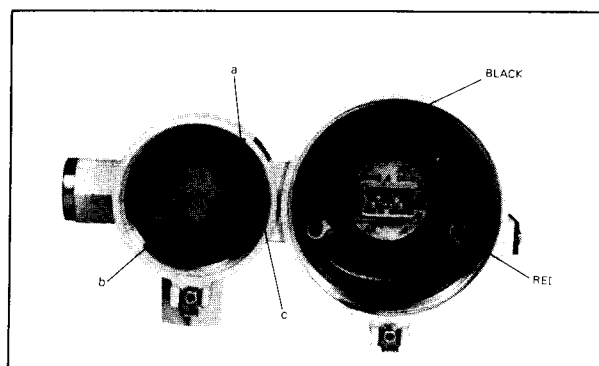

Figure 3.
1.4 Removing the Terminal Board (See Figure 3 and 4.)